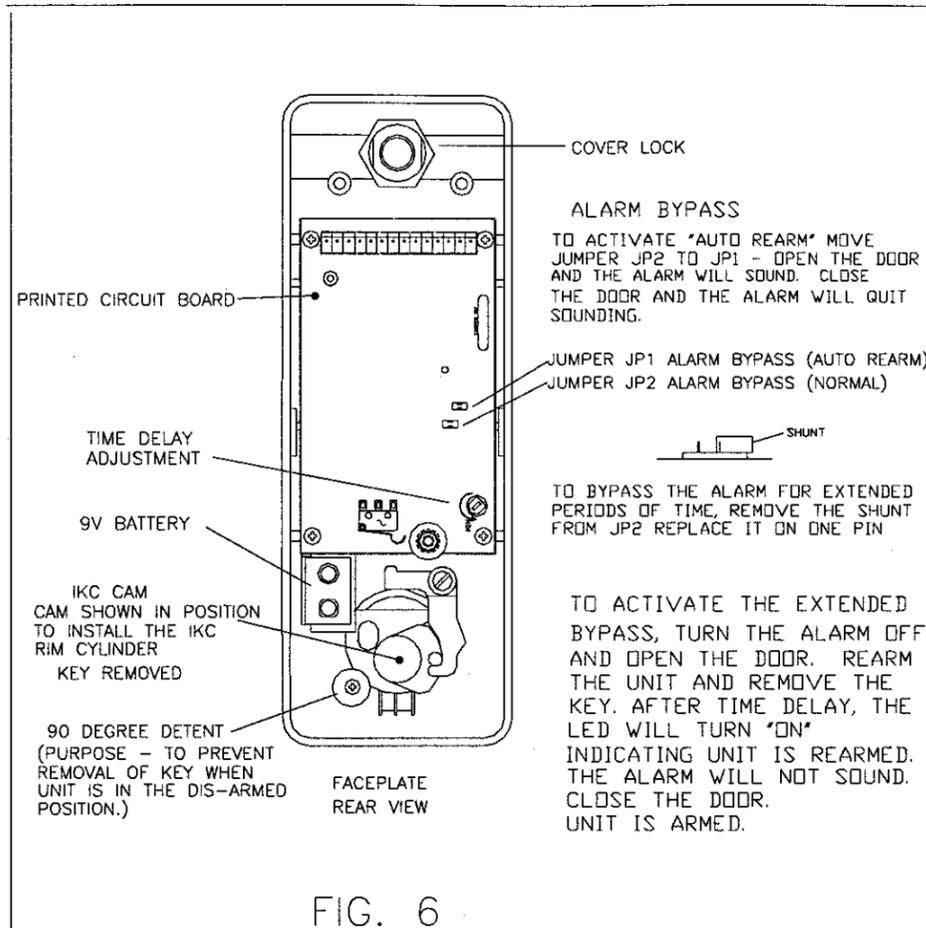

FIG. 6
When the system is by-passed by an authorized person, that person has a limited amount of time to exit and close the door before the alarm sounds. The time delay is preset at the factory to approximately 8 seconds (minimum time). If more time is desired, an adjustment is provided in the alarm (See page 5 Fig. 6).
When it is necessary to by-pass the alarm for extended periods of time, such as when deliveries are being made through a protected door, an adjustment is provided in the alarm for this situation as described on page 5 Fig. 6.
With this feature, the unit will sound when the door is opened by unauthorized personnel, stop when the door is closed and automatically rearm the alarm. (See page 5 Fig. 6)
To prevent removal of the arming key in the disarmed position, a detent is provided in the hardware kit. (See page 5 Fig. 6)
- 1) Check CAM alignment - key removed (See pg. 5 Fig. 6).
- 2) Cam mis-aligned - remove cylinder. Align IKC cam as per drawing (see page 5 Fig. 6). Remove key from cylinder - reinstall.
- 3) Check CAM position/ installation of IKC cylinder (see page 5 Fig. 6)